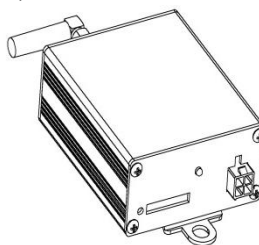

Fig.8
3.7 GSM remote controller(Optional device, see Fig.8)